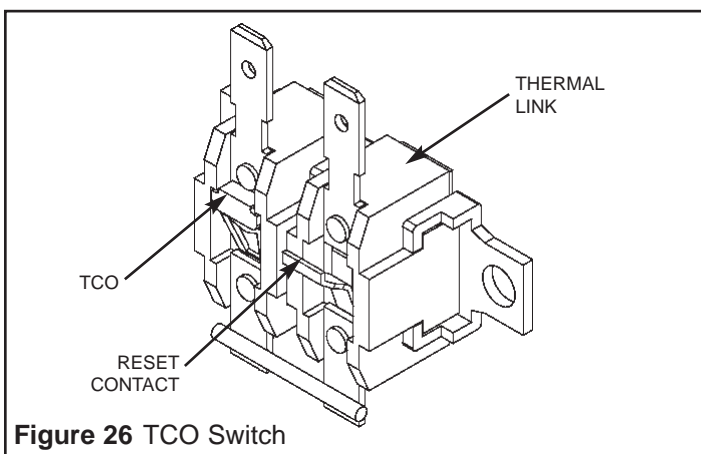

Figure 26 TCO Switch
3. Manually press the contact located on the front-right side of the TCO switch (Figure 26) until a click sound is generated. Do not use a metal tool or a screwdriver to press the TCO switch contact.